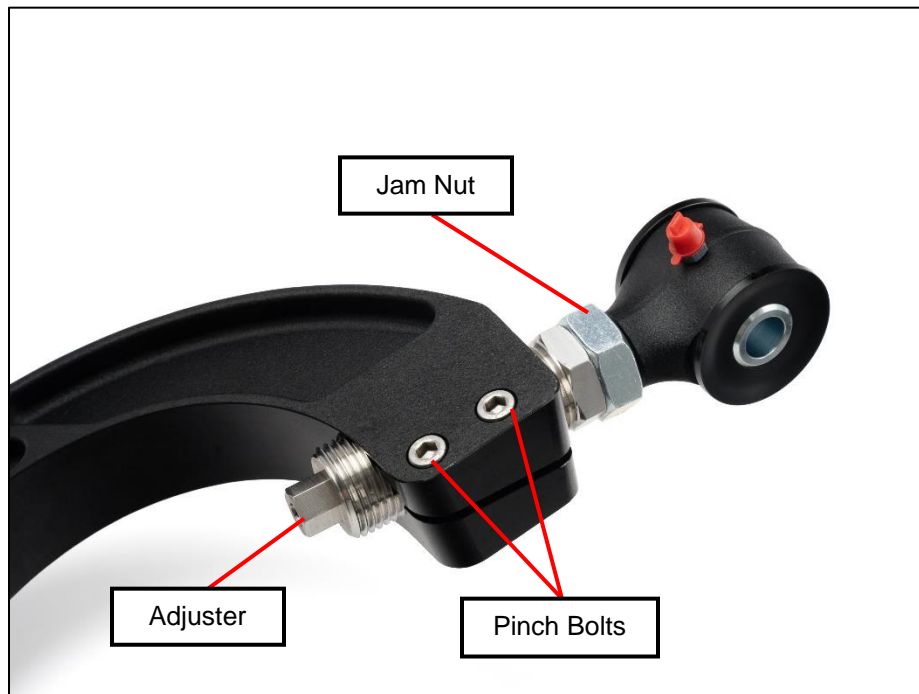

Figure 7
26. Align your rear suspension. Use *Figure 7* and adjust the Z1 Rear Upper Control Arms as follows:
- b. Loosen (2) two Allen/Hex head pinch bolts until sleeve is loose for adjustment.
- e. Tighten the (2) two Allen/hex head pinch bolts back and forth evenly. Torque to 7 ft-lbs or 84 in-lbs.